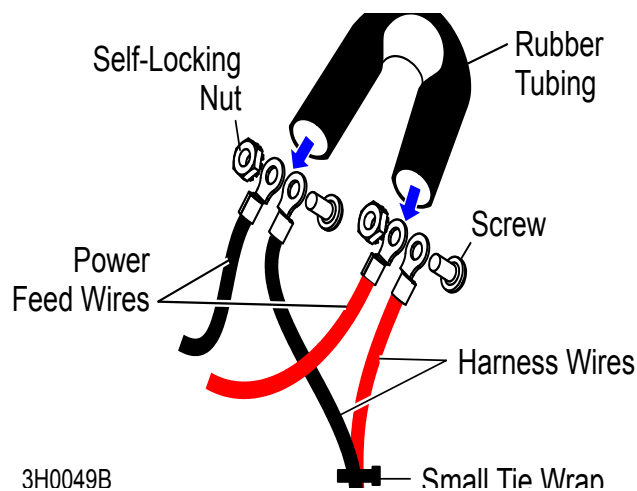

FIG. 1-18
See Figure 1-18. To connect, bundle the four harness wires together with the small tie wrap. Connect the blue power feed wire to the blue harness wires with a screw and a self-locking nut. Connect the green power feed wire to the green harness wires with a screw and a self-locking nut. Slip one end of the neoprene tube around each wire/harness connection. Secure the tubing around the connections with the large tie wrap.
6. Install the female harness through the control box grommet. Use the small tie wrap to bundle the four harness wires together as shown. Connect the blue and green power feed wires to the respective blue and green harness wires with the screw and self-locking nut provided. Slip the supplied neoprene tube around both wire/harness connections as shown. **See Figure 1-18**. Keeping the tubing folded tight, use a large tie wrap to secure the bundled connection to the yellow, red and brown wire harness in the control box. Tuck the excess length of wires into the left front corner of the control box and replace the control box cover.